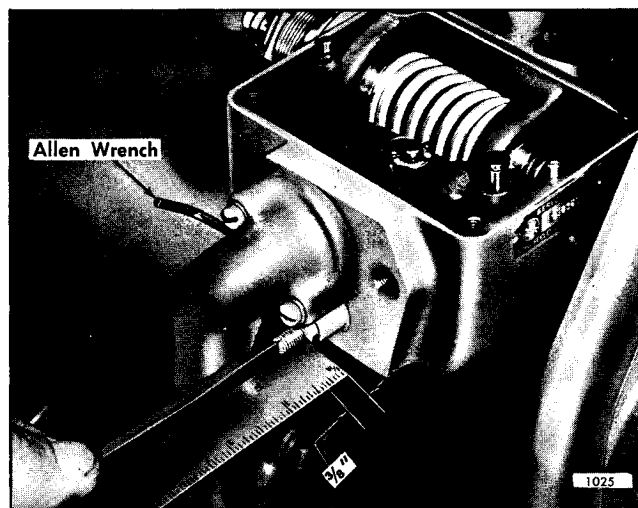

Fig. 3 - Preliminary Adjustment of Modulating Cam
- G. Thread the cam adjusting screw (48) into the housing until the screw extends $\frac{3}{8}$ " beyond the lock nut when the nut is against the sleeve, Fig. 3. Tighten the cam lock screw with the Allen wrench to hold the cam in position until adjusted later.